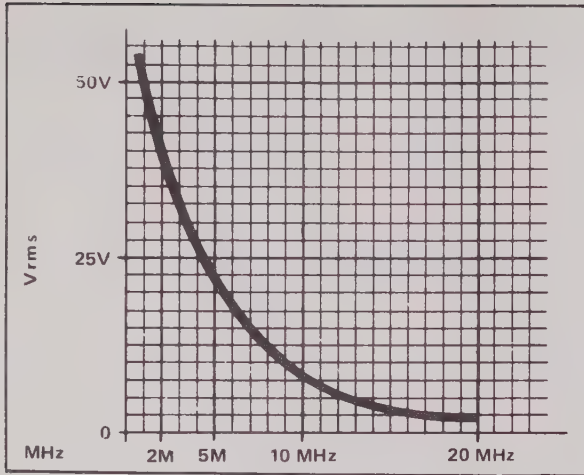

Figure 6-10. MAXIMUM RF SIGNAL LIMITS (VRMS) AT PROBE TIP
4. RF signals applied to the 80T-150 probe tip can also cause errors in temperature measurement. Figure 6-10 defines the rf signal limits that can be tolerated without degrading measurement accuracy.